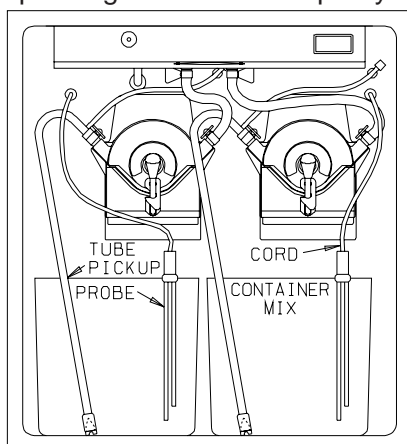

Figure 8-1
3. Clean the interior mix container walls, the underside of the container covers, and low mix probes (see figure 8-1 probe assembly) with sanitizer solution and the appropriate brush provided.